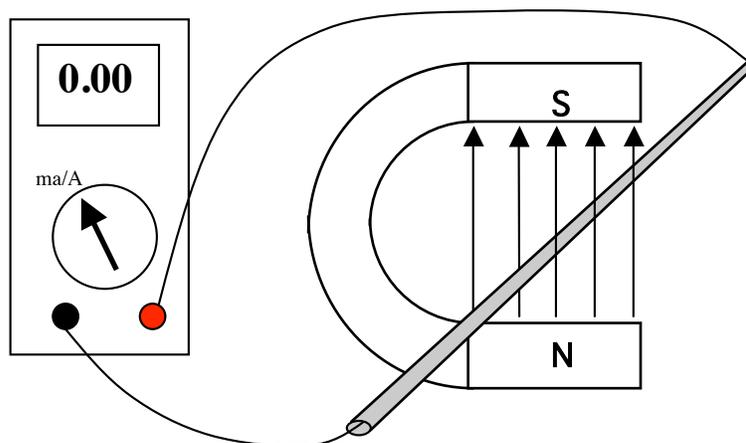

Figure 11.11a
Turning the Genecon crank makes coils of wire rotate between two magnets inside the motor. This makes the charge contained in the coil wire move in a magnetic field -- in a direction sideways to the wires. How does this make charge move through a bulb connected to the motor? We will investigate the simpler situation in Figure 11.11a, with your hands making a straight wire move in a stronger magnetic field with a nearly uniform pattern like that of the field in the Genecon motor.
Figure 11.11a shows a digital multimeter with its selector set to read current, making it an ammeter. To determine which direction of charge flow the meter readout indicates, connect a D-cell and two long bulbs in series with the meter. The D-cell's orientation in the circuit tells you which direction conventional charge moves -- and the meter reading will display either a negative sign or no sign corresponding to that direction of charge flow.
After you connect the circuit in Figure 11.11a, use your hands to make the wire move. Watch the galvanometer needle, which will respond to charge movement along the wire.
1. To simulate what happens in a generator, you will make the straight wire in Figure 11.11a move to the left in the magnetic field. This movement will be sideways to the wire and sideways to the direction of the magnetic field arrows. Draw a red arrow on Figure 11.11a to indicate the direction the charge in the wire moves during this sideways wire movement.
2. The Genecon motor has many turns of wire, so you should explore using coils with many turns of wire to see if that causes a greater effect. The teacher will provide various coils with different numbers of turns. Figure 11.11b shows a top view of Figure 11.11a with a coil replacing a straight wire. This has been done to make the physical situation easier to visualize and analyze.
Let's apply the Right Hand Rule to the apparatus in Figure 11.11a, diagramed below with arrows. Refer to the diagram of the Right Hand Rule in Figure 11.8 while doing each of the following:
(Figure 11.11a WITH DIRECTIONAL ARROWS AND EXPLANATION)
Imagine that the multimeter in Figure 11.11a is replaced by a light bulb. The wire moving in a magnetic field will cause charge flow through the bulb -- exactly like it caused flow through the multimeter. This is the generator effect. Is there an electric pressure difference in the generator terminals driving charge flow through the bulb -- just like in battery terminals? Why or why not?